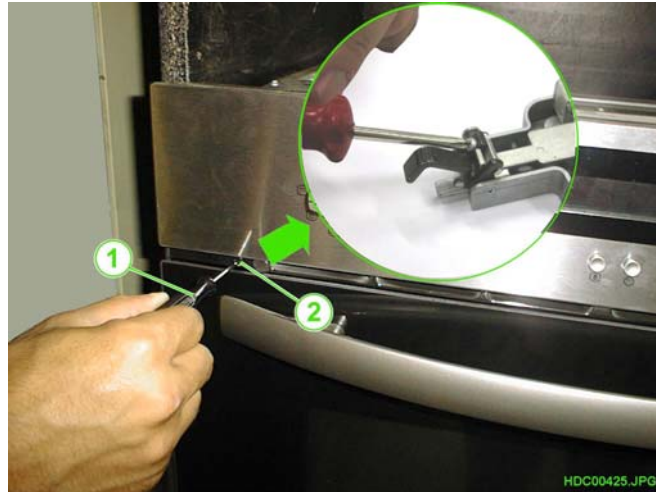

Fig. 48
- 2 - Remove the hook fixing screw, in this way the closure hook lifts up releasing the door (see Fig. 48).